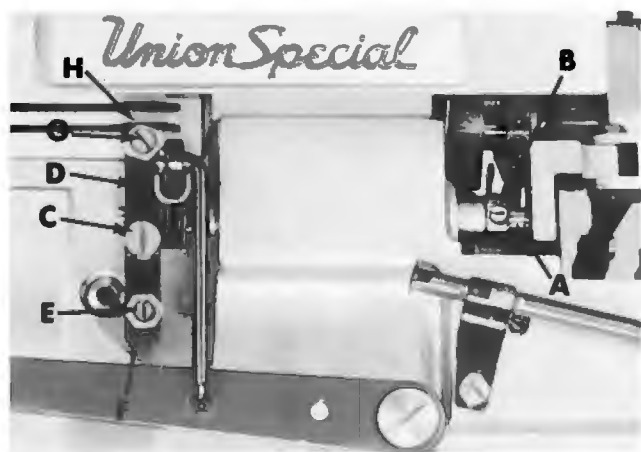

Fig. 19
The foot lifter lever arm (D, Fig. 19) and the collar (B) secure the shaft. Be sure the presser arm does not bind and rise when presser foot release lever is unlocked.
Adjust lifter lever stop screw (E, Fig. 19) so that presser foot can be raised no higher than upper looper or spreader will permit; then lock the nut (F). There should be from 1/16 to 1/8 inch (1.59 to 3.18 mm) free motion of foot lifter lever before the presser foot begins to rise. This adjustment should be made with screw (G) and locked with nut (H). Re-assemble the chip guard, fabric guard and cloth plate. To assemble chip guard, turn handwheel until upper knife assembly reaches its highest position.
Assemble the presser foot to presser arm. With needle in high position, swing presser arm into sewing position and set the presser foot to align needle holes (front and back) and flat on throat plate. The front edge of needle hole in presser foot must be aligned with front edge of needle hole in throat plate. It is important that the bottom of the presser foot lies flat on the throat plate. If necessary, presser foot can be realigned with throat plate slots by shifting the foot lifter lever shaft (A, Fig. 19). To move the shaft, loosen screws in collar